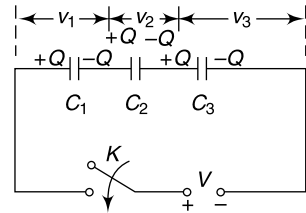

Fig. 2.18 Capacitors in series connection
(a) Capacitors in Series Let us assume three capacitors of capacitances (C_1), (C_2) and (C_3) are connected in series across a dc supply of potential difference (V) through a switch K (Fig. 2.18). On closing the switch, the capacitors get charged and at steady state the p.d. across (C_1), (C_2) and (C_3) are (V_1), (V_2) and (V_3) respectively while the charge in each capacitor is (Q) (since the capacitors are connected in series, same charging current would flow resulting in accumulation of charge (Q) in each capacitor).